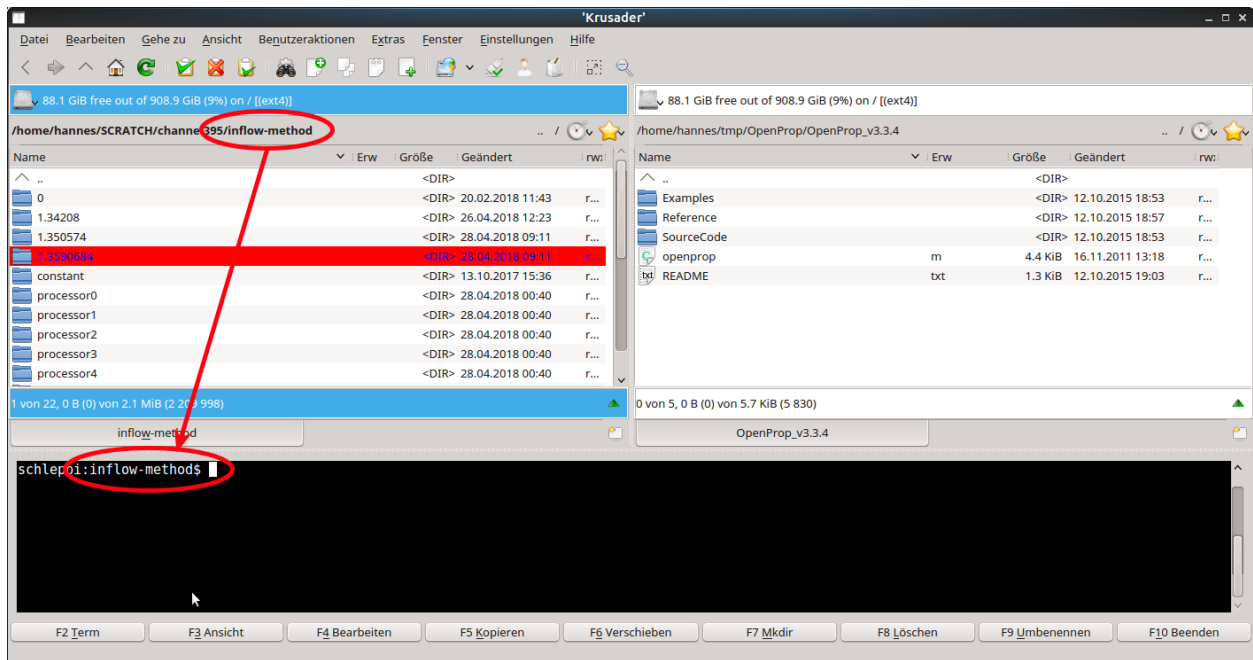

Figure 2: Krusader file manager with embedded terminal
2. There is a Norton-Commander-like file manager named **krusader** (figure 2). It offers the same functionality regarding the embedded terminal but a more flexible way of displaying multiple folders. In addition to the two list view on the left and right, multiple tabs for folders